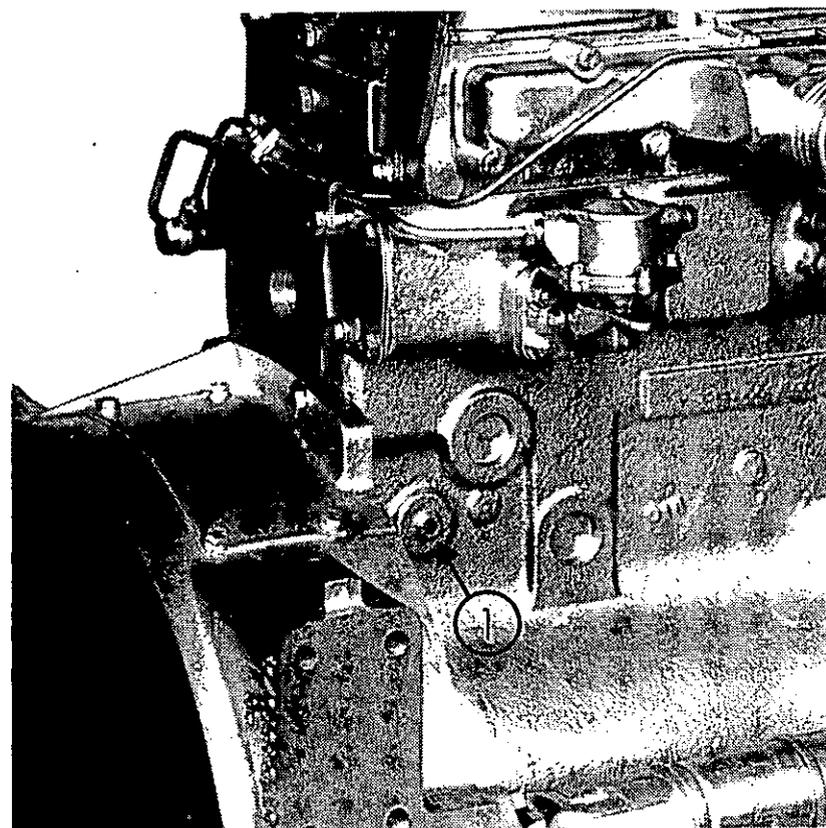

Fig. 6 Cylinder block drain plug
- 3 Remove the drain plug from the side of the cylinder block (see 1, fig. 6) to drain the engine. Ensure that the drain hole does not have any restriction.